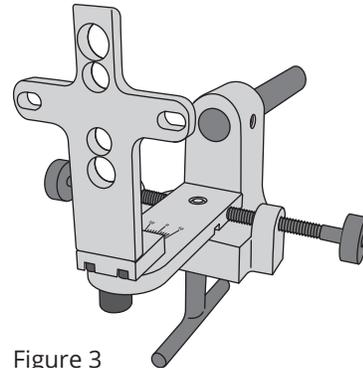

Figure 3
- Attach the Transfer Fixture to your Hosmer VFJ (52056) by removing the fixture for the SACH foot adapter and replace it with the Transfer Fixture. This will allow adjustments on the VFJ and angle adjustment within the Transfer Fixture (Figure 3).
- Attach the Adjustable Alignment Bracket to the Transfer Fixture by placing two M6 socket head screws through the slots in the Transfer fixture into the threaded holes 5 & 6 (Figure 3) in the Adjustable Alignment Bracket and tighten to prevent movement.